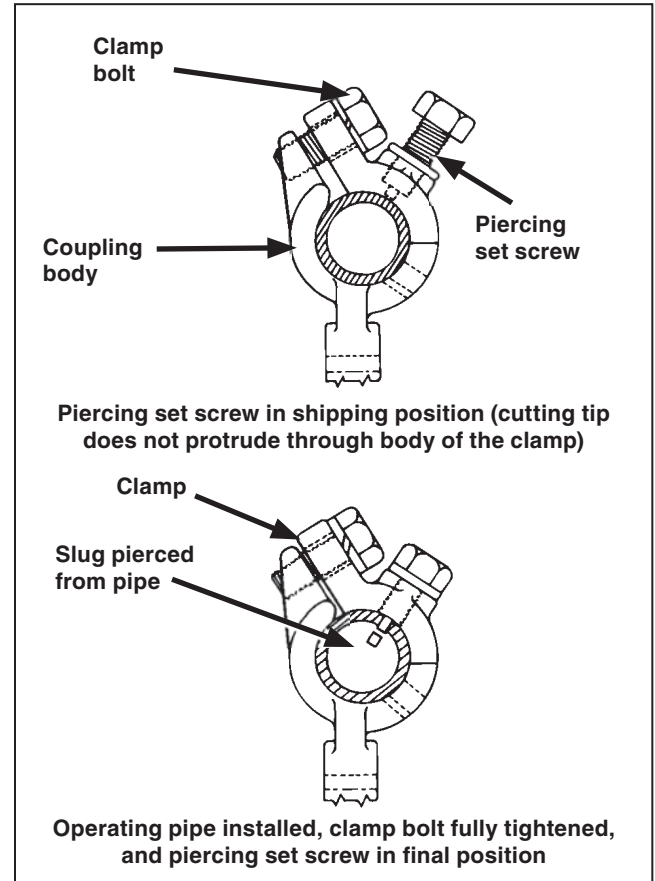

Figure 11. Install the pipe couplings with piercing set screws.
STEP 8. The interphase operating pipe, vertical operating pipe, and rotating operating handle use piercing set screws to couple to the operating pipe. See Figure 11. Before installing the interphase pipe sections, check that the cutting tip of each piercing set screw does not protrude into the body of the coupling.